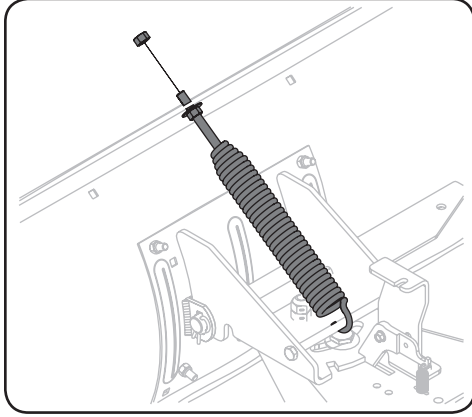

Figure 2-12
1. Remove 1 nut (712-04102) from the end of the trip spring kit (689-00662) and insert hook end around screw (710-3261) that was installed previously. Insert threaded end through mounting hole in blade and fasten the nut (712-04102) removed earlier to secure the trip spring to the blade. See Figure 2-12.